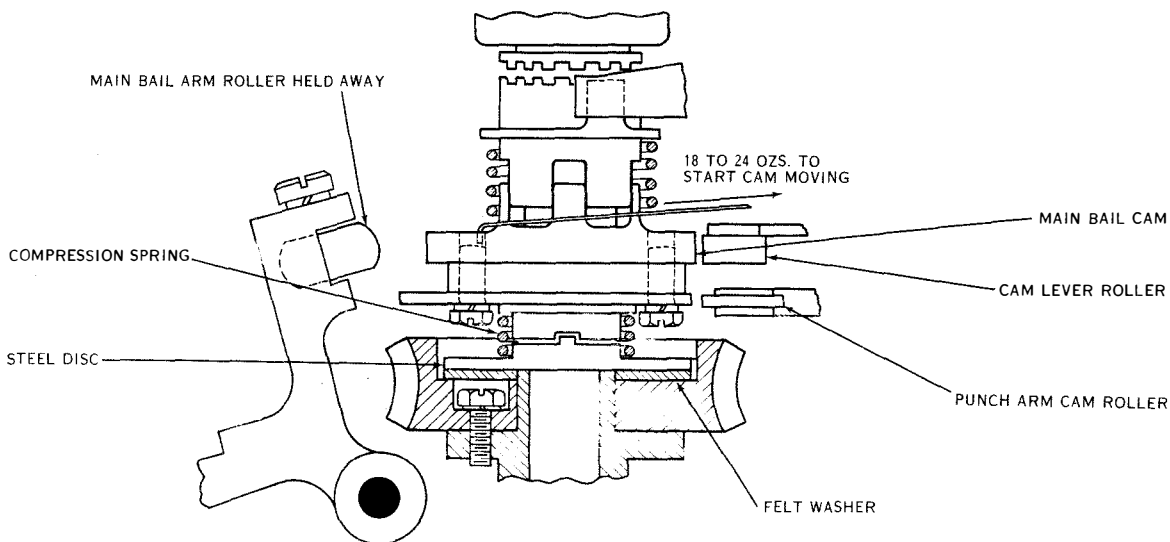

Figure 7-64. Main Bail Cam Clutch Torque
(85) MAIN BAIL CAM CLUTCH TORQUE. (See figure 7-64.)—A tension of 18 to 24 ounces should be required to start the main bail cam moving opposite to its normal rotation. To check, allow the motor to warm up for at least ten minutes with the main bail cam stationary. Press downward on the main bail so as to move the main bail cam roller away from its cam and, at the same time, hold the cam lever roller (if